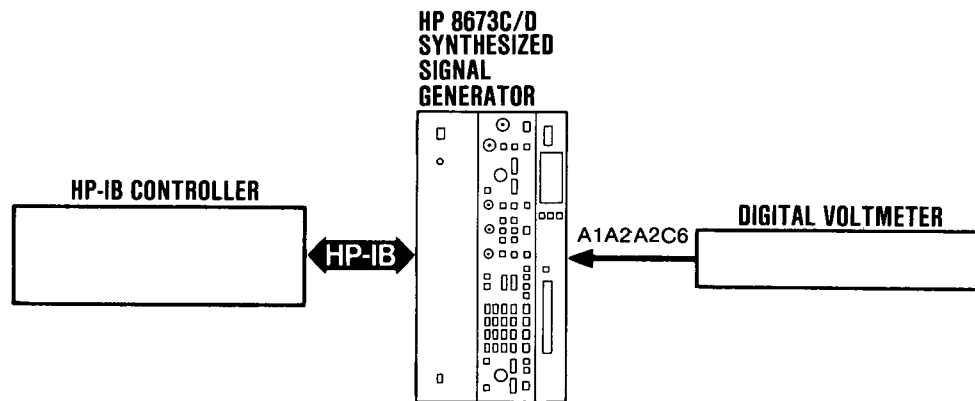

Figure 5-44. Bias-2 DAC Adjustment Test Setup
2. Connect the equipment as shown in Figure 5-44.